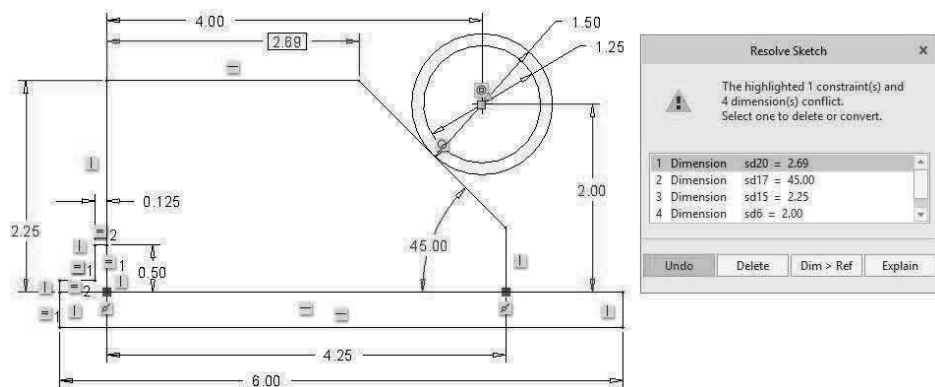

Figure 3-56 Resolve Sketch
**Step 16:** *Select* the horizontal line at the top of the jig with the LMB. Move upward a bit, then press the MMB to locate the dimension. Note that a “Resolve Sketch” window appears. See Figure 3-56. This appears because the sketch as defined is completely defined and we are trying to add another dimension. One constraint and 4 dimensions must be modified. A reference dimension is a dimension shown on a sketch that is not necessary to define the sketch. When the window appears, be sure the new dimension is highlighted, then *pick* the **Dim>Ref** button. *Pick* **OK**.